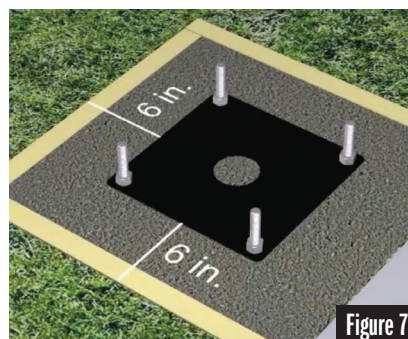

Figure 7
- Measure the distance from the edge of the bolt plate to the edge of the frame to ensure it is centered. See Figure 7.